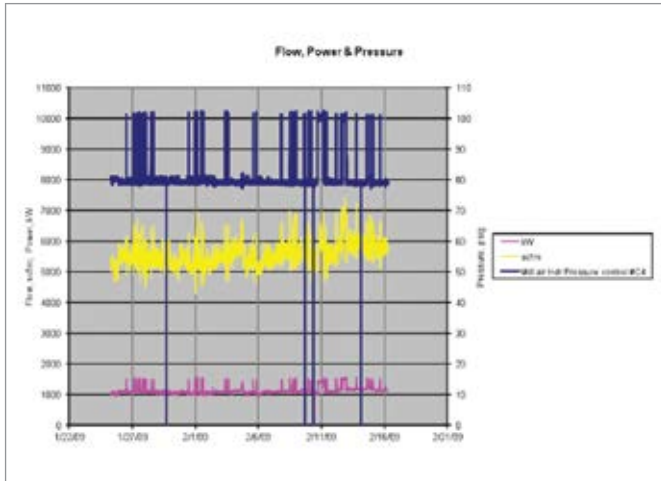

Figure 2: Overall System Performance Data
- System total flow and power (See Figure 2 on pg. 17).